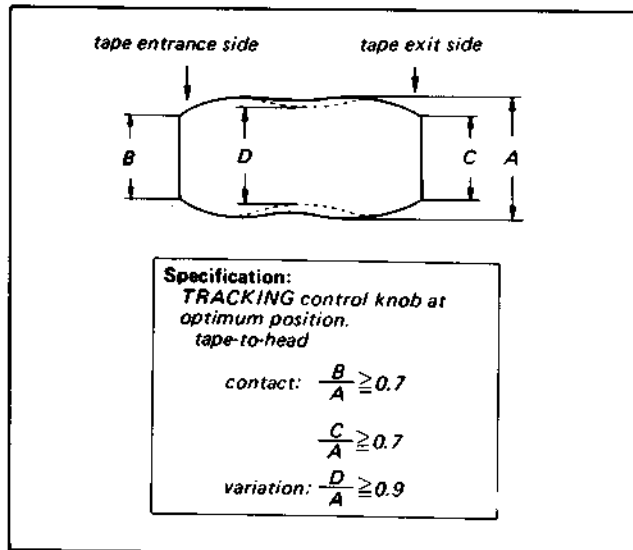
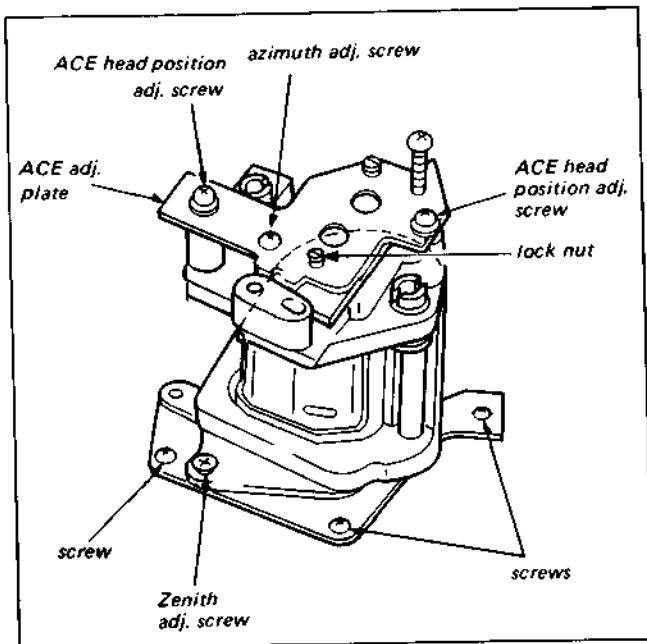
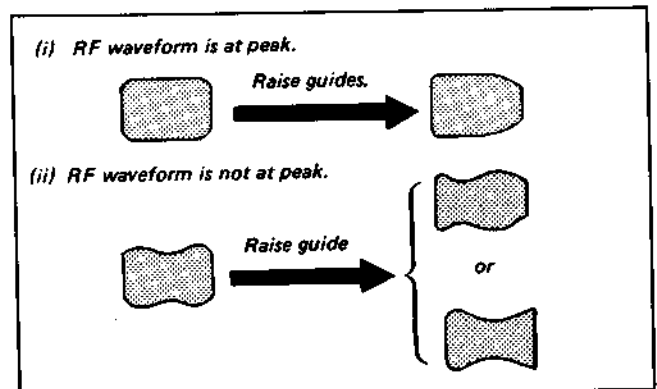

Fig. 3-51. Adjustment of tape path
Fig. 3-54. Removal of ACE assembly
Fig. 3-55. Adjustment of exit side tracking after ACE assembly replacement
- 5) Confirm that the fluctuation and the tape-to-head contact satisfy the specification shown in Fig. 3-51. If they do not, perform Step 6 for the adjustment.
- 1) The ACE assembly can be removed if the three screws shown in Fig. 3-54 are removed.
- 4) Play back the TRACKING segment of the alignment tape (KR5-1H or 2H). Confirm that the RF wave output (see Fig. 3-51) satisfies the specification and there is a minimum curl (not more than 2 mm) on the tape edge contacting the tape guide. Confirm that the RF waveform varied from the flat state when the tape guides (E) and (F) are raised and adjust the heights of the tape guides so that the waveform output becomes flat. (See Fig. 3-55)
- 5) When the waveform does not vary if the tape guides (E) and (F) are raised in Step 4 or when the waveform does not become flat if the tape guides are lowered, perform the adjustment, following the procedure below.
- (i) Loosen the lock nut shown in Fig. 3-54.